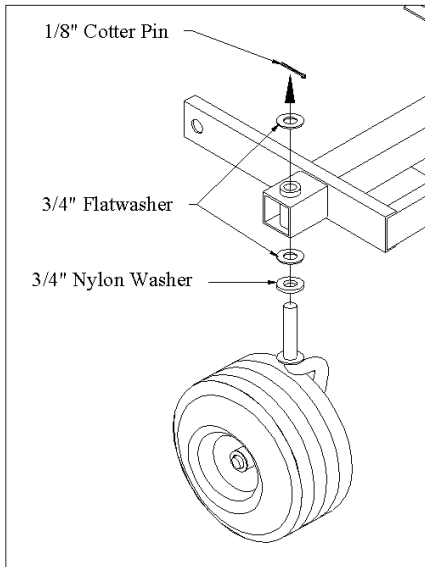

Fig. 1
1. Slip one nylon washer (35) over each caster yoke (7) pin. Slip one 3/4" flatwasher over each pin. Insert caster into frame (1). Slip another 3/4" flatwasher over pin and secure with 1/8" cotter pin. **Fig. 1**